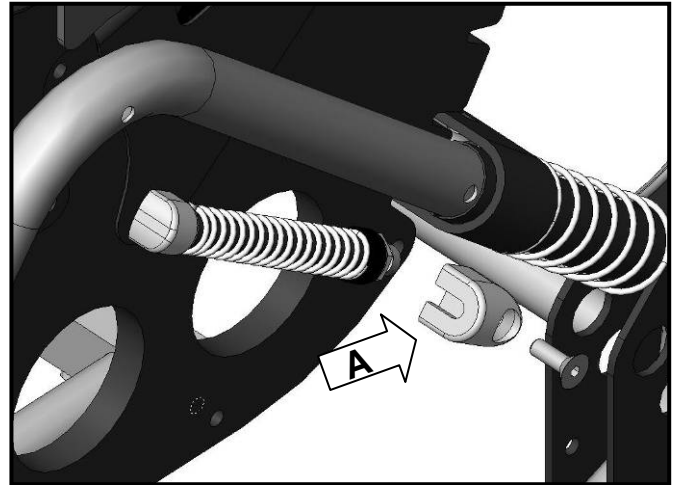

Figure 9: Changing Extension Limit and Force
3. Using a 5/32" Allen wrench and a 7/16" Nut Driver, remove the bolt from the lower pivot block [A] below the spring and then pull the block away from the black plate as shown in **Fig. 9**.